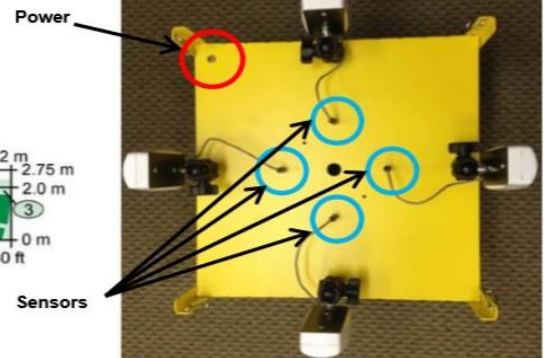

Figure 4
5. Locate ¼" plug from power supply and plug into the top of unit (Figure 4).
6. Plug sensors into top of unit (Figure 4). **Plug all sensors in before Energizing the unit.**